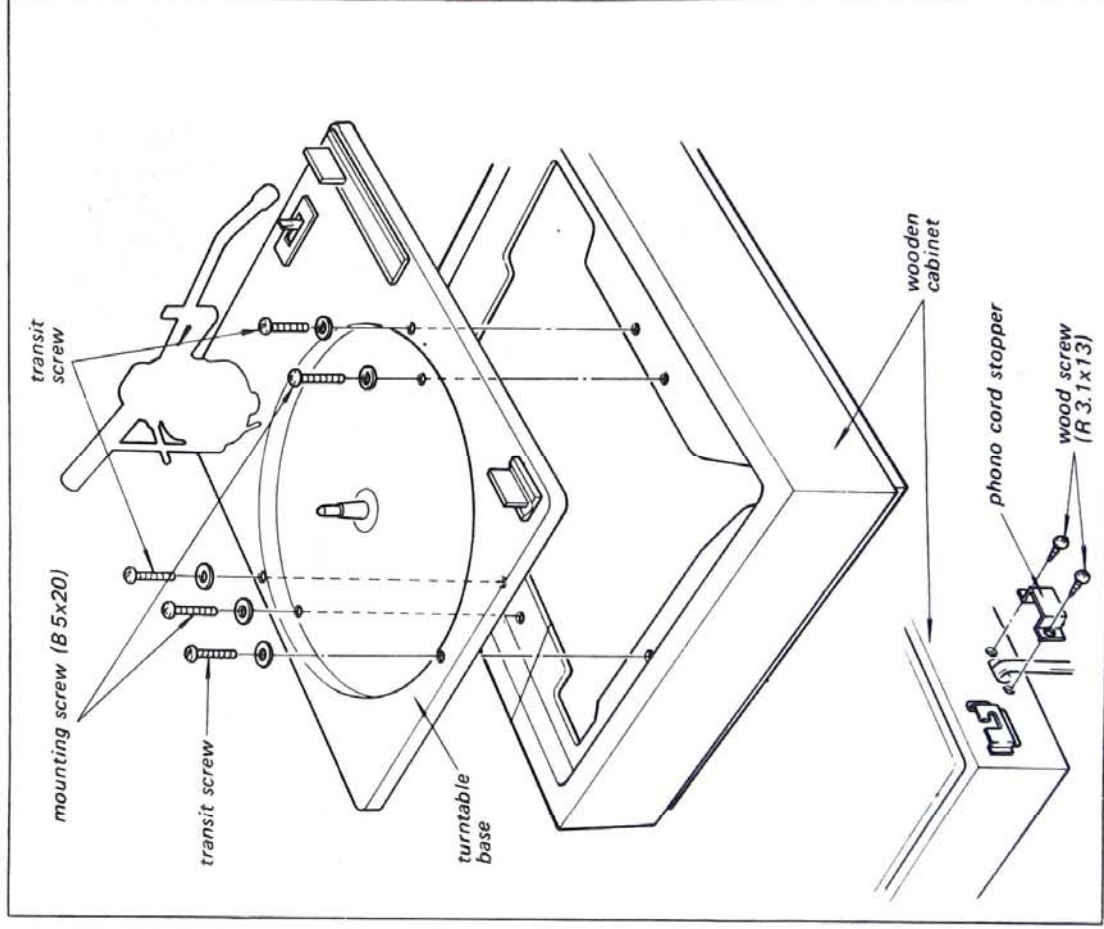

Fig. 2-3. Turntable base removal
4. Remove the three transit screws and the two mounting screws shown in Fig. 2-3.
5. Remove the phono cord stopper by removing the two wood screw as shown in Fig. 2-3. This frees the phono cord.